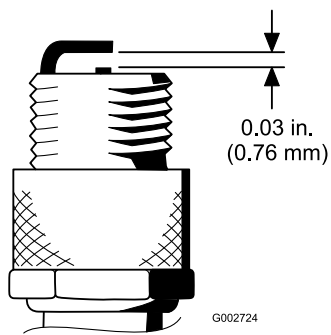

Figure 28
4. Set the air gap between the center electrode and side electrodes to 0.76 mm (0.030 inch); refer to Figure 28. Install the correctly gapped spark plug with the gasket seal, and tighten the plug to 23 N·m (200 in-lb). If a torque wrench is not used, tighten the plug firmly.